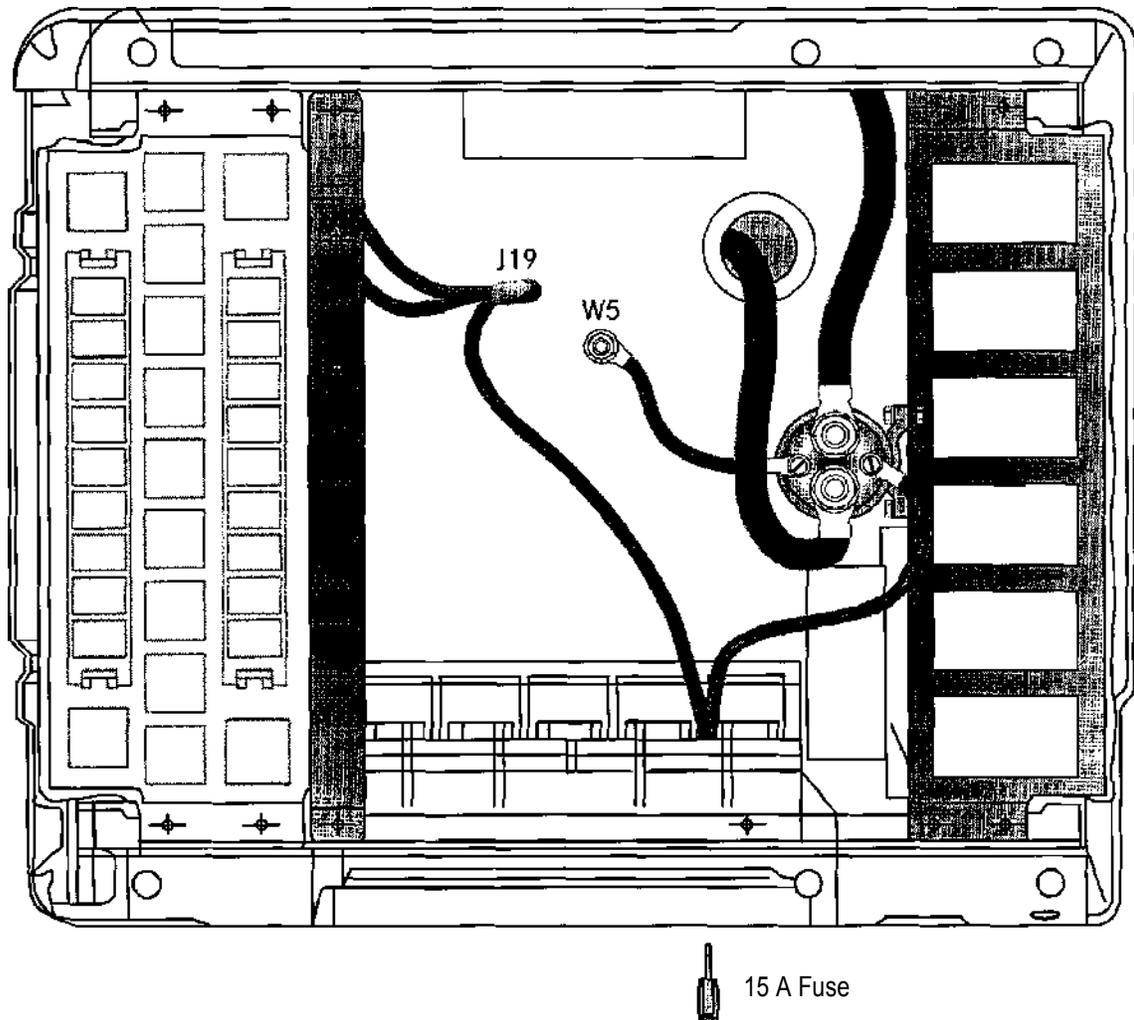

Fig 13, Wiring layout, driver's seat base
19. Crimp a ring terminal on one end of the brown 1 mm² wire and connect it to the negative coil terminal of the isolation relay. Route the wire to the ground stud (W5) on the seat base. See **fig.13**. Crimp a ring terminal on the other end of the wire and connect it to the ground stud (W5).
20. Locate the J connector pack. This is a bundle of spliced wires wrapped in black cloth tape located close to the W5 ground stud. Carefully unwrap the tape and find a splice with red/black 1 mm² wires. This is the J19 circuit splice. Remove the heat shrink cap from the splice and verify the circuit with a digital voltmeter. With the engine off and igniton on you should read 0 volts. With the engine running you should read charging system voltage. If this is correct, cut the crimp connector. Route the red/black wire from the fuse top row cavity to the J19 splice. Crimp the wires together with a new crimp connector and cover it with new heat shrink tubing. See **fig.13**.